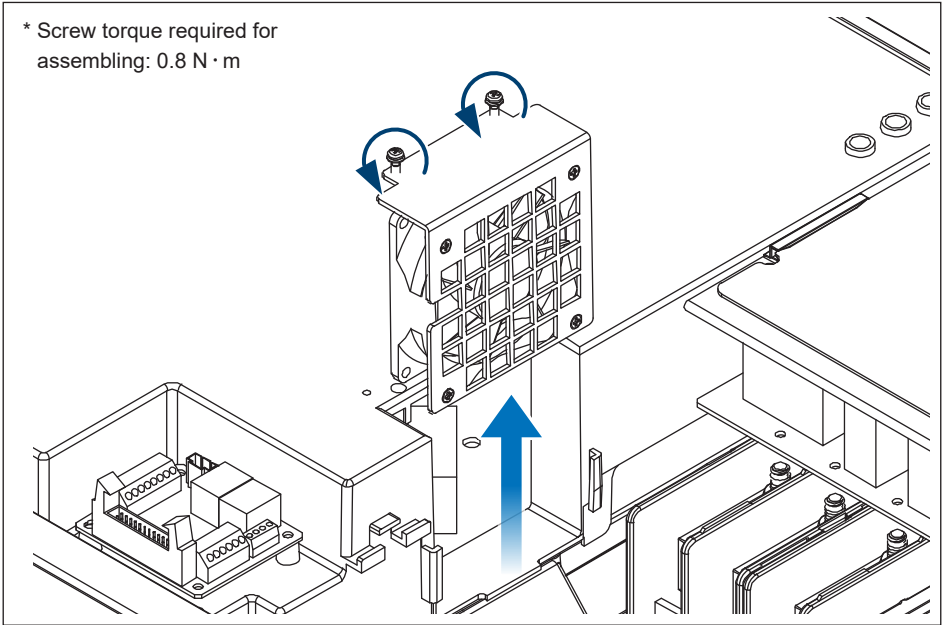

Figure 5-15: Take off the internal fan 2
- (2) Loose 2 self-retaining screws and remove the fan cabinet. (**Figure 5-15**)